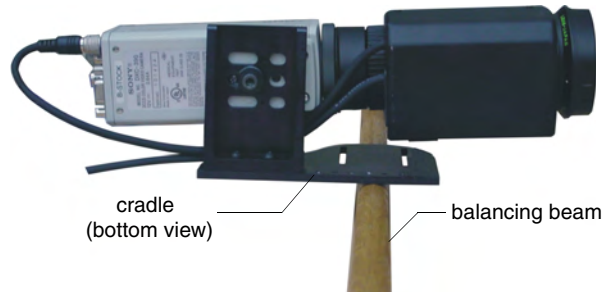

FIG. 16 Balancing the camera/lens cradle assembly
4. Place the assembly on a balancing beam and while maintaining the cradle centered on the pipe, slide the camera along the cradle's grooves until the camera and cradle remain balanced on the beam (see FIG. 16). Verify balance with a spirit level.